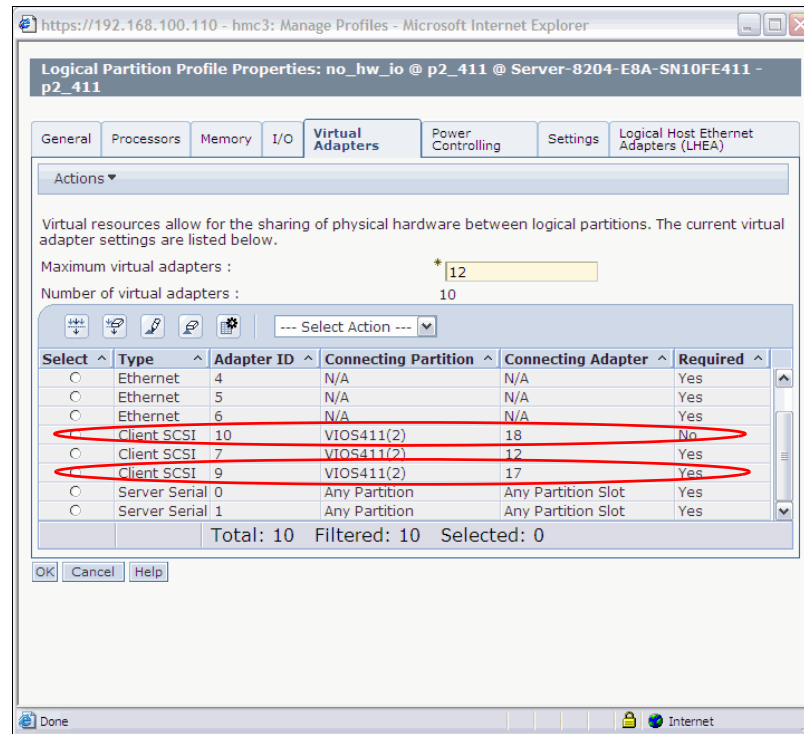

Figure 5-11 Virtual SCSI Client Adapters Added
4. Since our destination partition is currently shut down, add two virtual SCSI client adapters to the destination partition's profile. The client partition's Profile Properties panel is displayed in Figure 5-11 with the added client adapters highlighted.